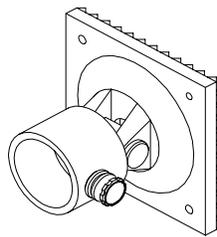

Figure 1-10. Hinged Base
g. **Hinged Base.** The hinged base (Figure 1-10) is similar to the rigid base except it will pivot 45° from vertical in either direction about the pivot pin axis making the strut an initial safety rake shore at 45°